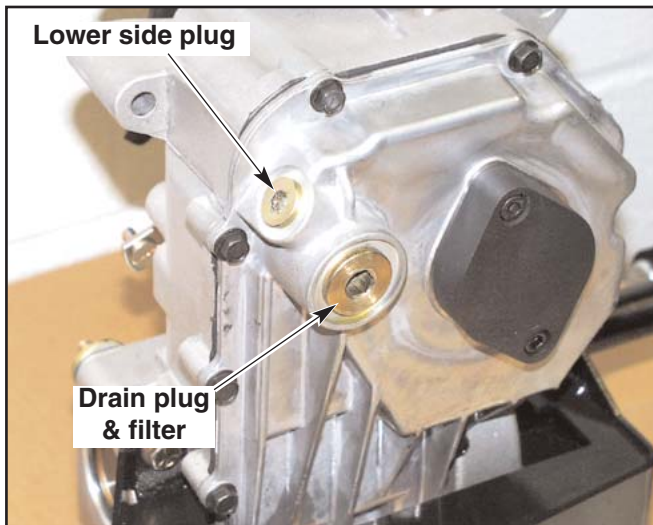

Figure 9-7
2. Remove the drain plug and filter from the integrated pump/motor transmission and drain the oil into a drain pan. Dispose of the oil in a proper manner. This oil will not be re-used. Fig. 9-7
4. Remove the lower side plug and install the magnetic plug included with the kit. Fig. 9-7